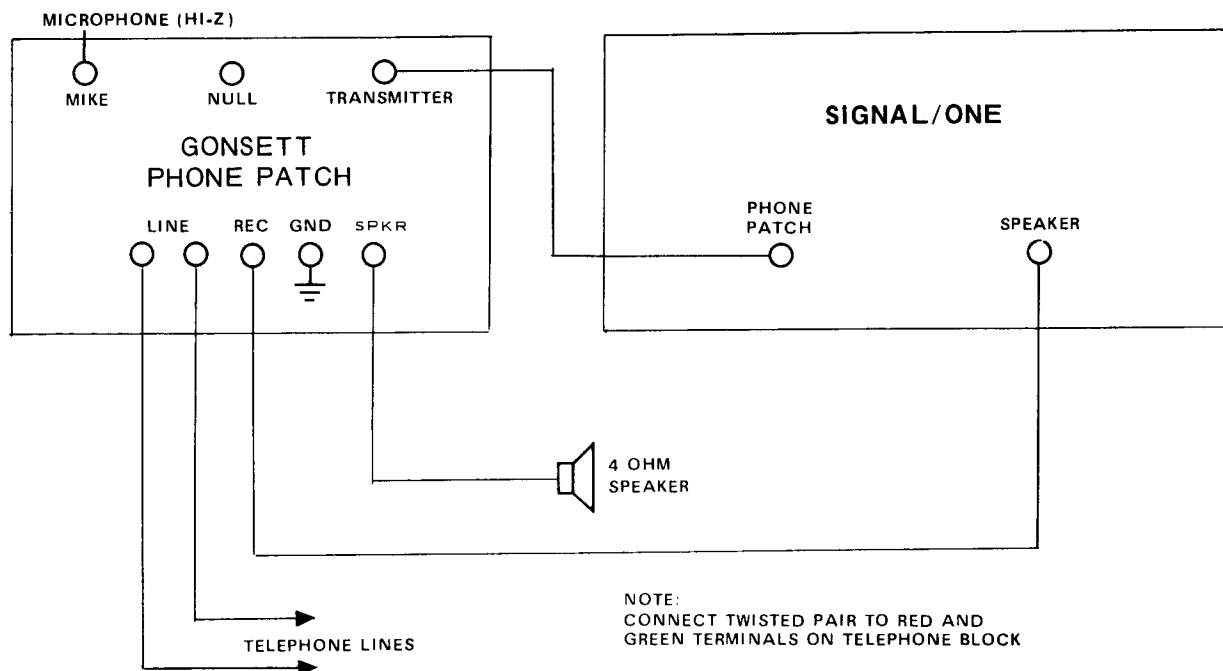

Figure 1-3. Hookup for Gonsett Phone Patch
a. Refer to Fig. 1-3 and 1-4 for connecting popular phone patches to the Signal One.
b. On phone patches other than those diagrammed in Fig. 1-3 and 1-4 refer to the manufacturers instructions for installation and operation.